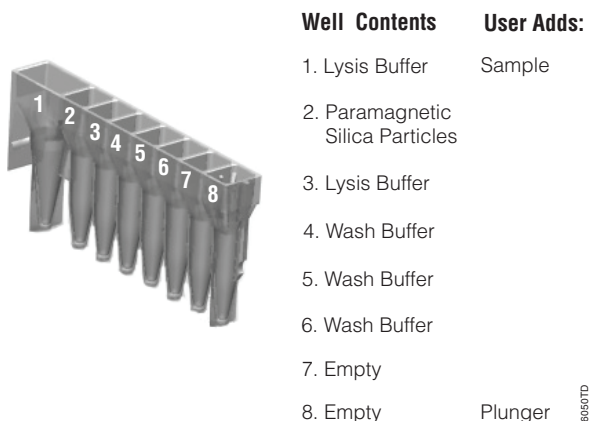

Figure 1. Maxwell® 16 Tissue LEV Total RNA Cartridge.
1. Place the number of cartridges to be used into the Maxwell® 16 LEV Cartridge Rack (Cat.# AS1251). Place each cartridge into the rack with the ridged side (Figure 1) facing towards the numbered side of the rack. Slowly remove the seal. Then press down the cartridge to snap it into position.